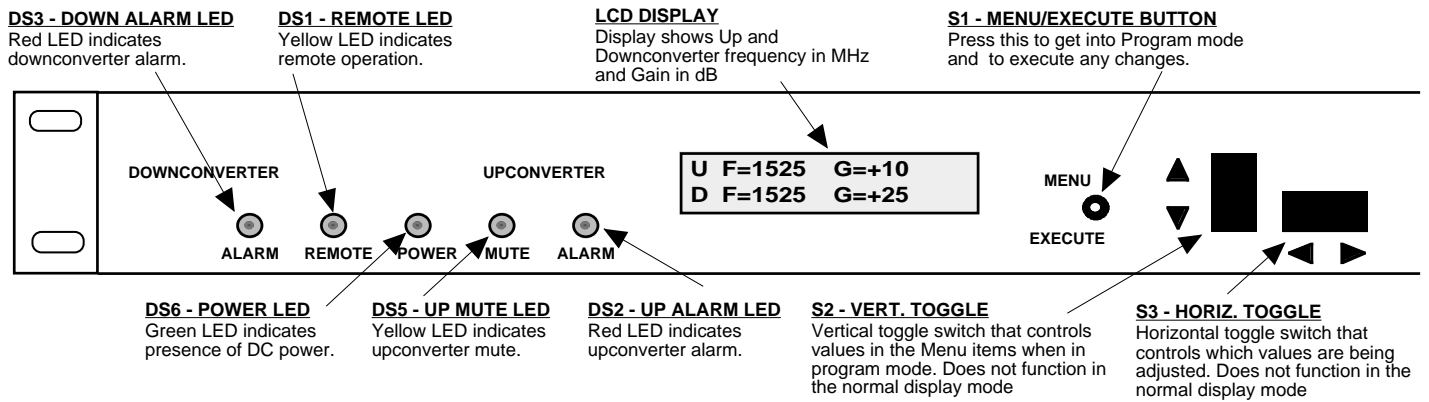

Figure 2.2 Model 2017-02A Front Panel Controls and Indicators
- 8.) Be sure DS6 (green, DC Power) is on and DS2 (red, Alarm) is off (Figure 2.2).
- 7.) Be sure DS6 (green, DC Power) is on and DS2 (red, Alarm) is off (Figure 2.2).
Alarm indications appear on the LEDs (see figure 2.2).